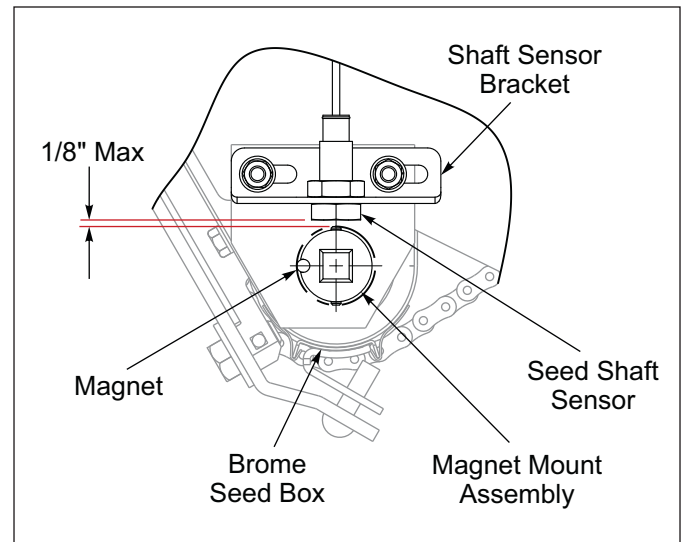

Figure 2-48: Console w/Clutch Control RH Rear Seed Shaft Sensor Detail
12. Slide/Position Seed Shaft Sensor so it is 1/8" from the magnet. **See Figure 2-48.** Tighten both Retaining Nuts.